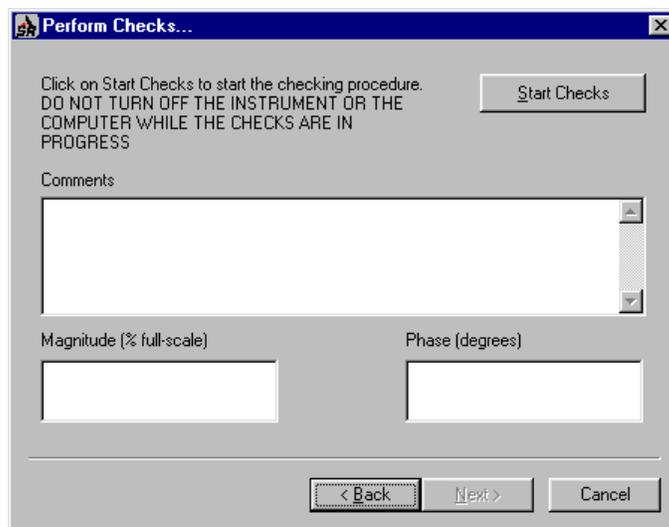

Figure 2-4, Initial Checks Procedure, Perform Checks Screen - Opening Display
- 9) Click the Initial Checks button to access the Initial Checks procedure. The Perform Checks screen shown in shown in figure 2-4 below will be displayed.